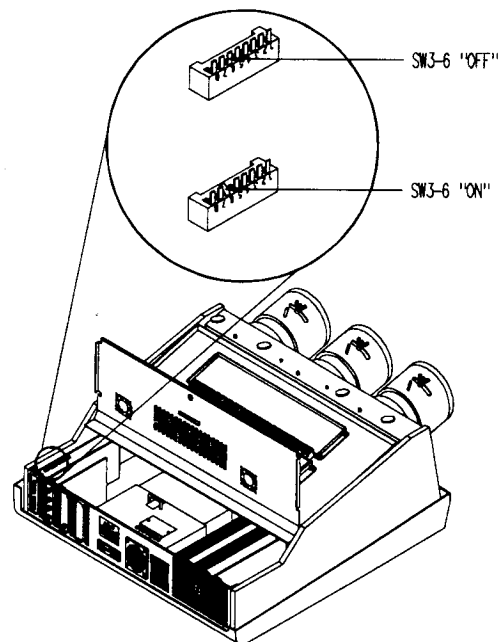

FIGURE 9-8. SW3 switch 6 (SW3-6) location.
- STEP 4. Locate SW3 (8 position DIP) on the CPU module. Switch SW3-6 to the "on" position. Replace the power cord and energize the system. Refer to Figure 9-8